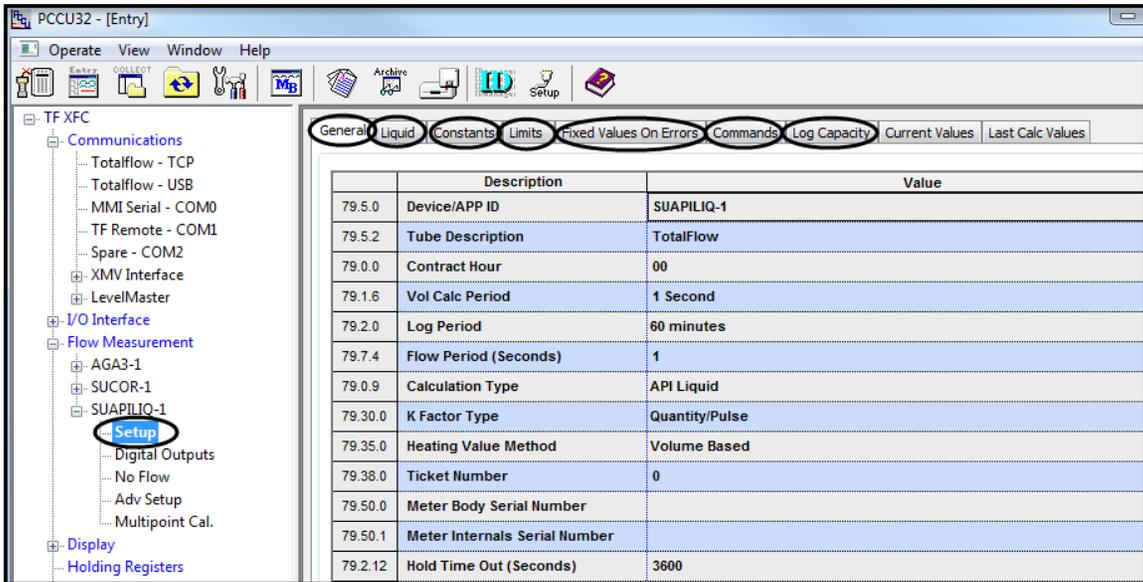
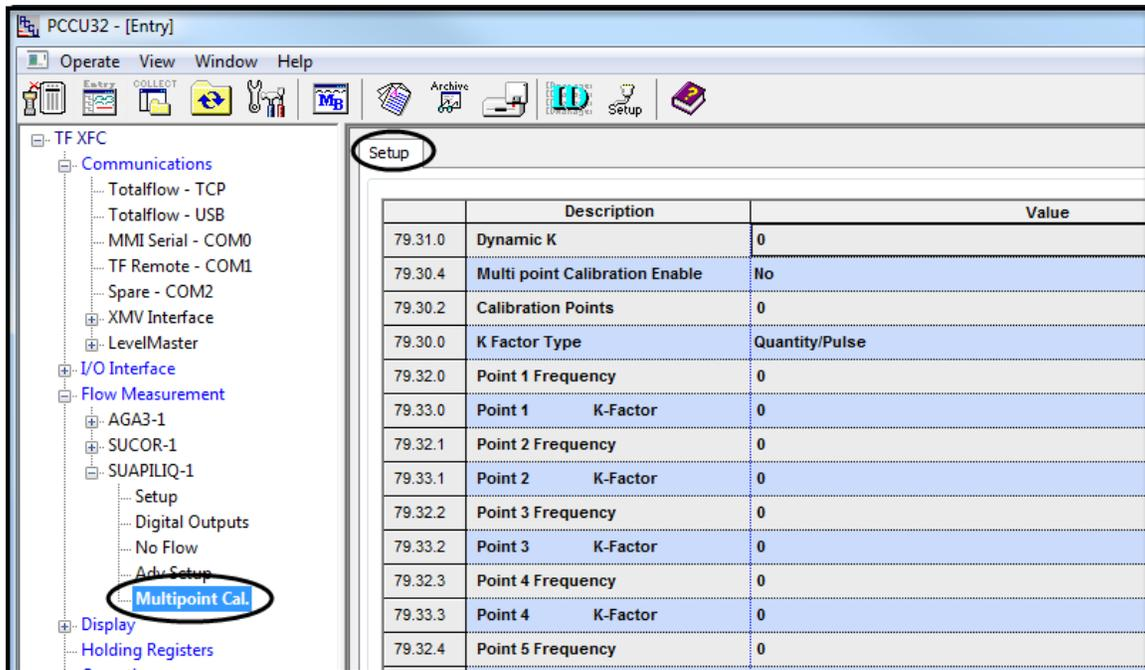

Figure 1: API Liquid application Setup General tab
Figure 5: API Liquid application Multipoint Cal. Setup screen
1. In PCCU entry mode, save screen shots of the following highlighted tabs (one screenshot for each tab) of all phase 0 liquid tube application(s). See Figure 1 to Figure 5.